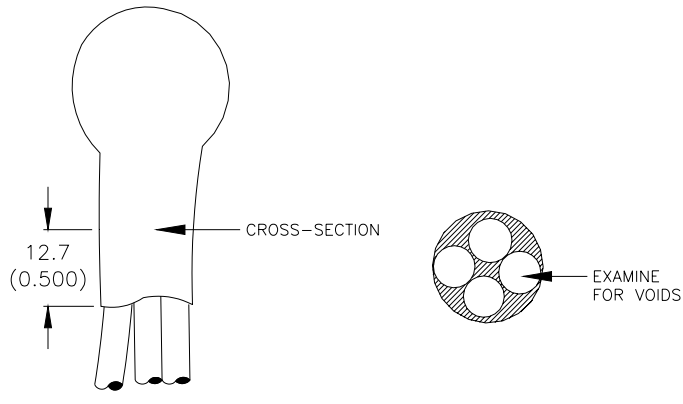

Figure 2
- The average length of time required for proper heating is given in the chart. However, since the heat sink effect of various wire bundles may vary considerably, several trial specimens should be cross-sectioned as shown in Figure 2 before proceeding with production installations. If the area between the wires is not completely filled, a longer heating cycle should be established.